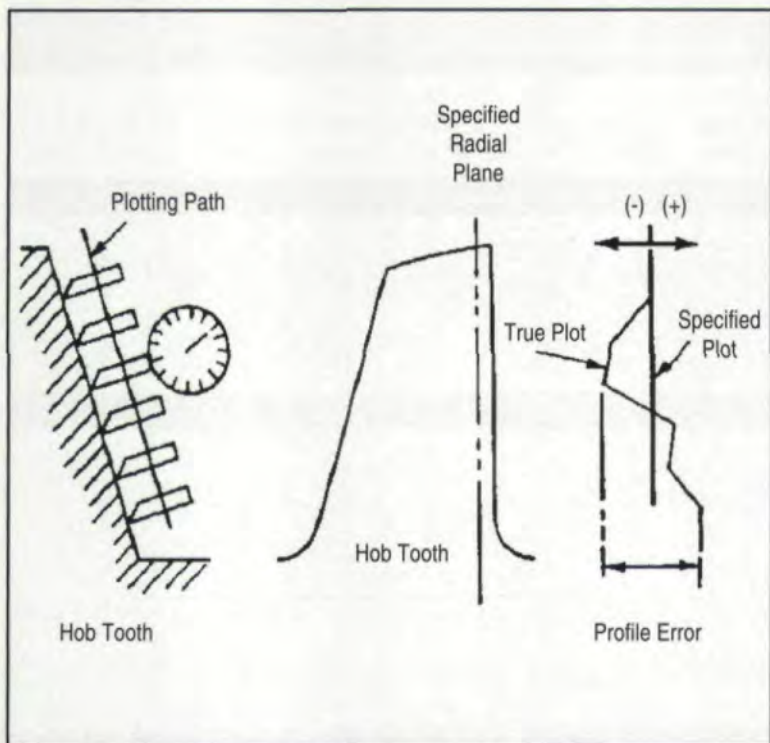

Fig. 10 — Method of measuring profile error of the hob.
**Hob Profile Error.** Pressure angle or profile error is the departure of the actual tooth profile from the correct tooth profile. The actual hob profile is allowed to vary from the specified hob profile entirely in the plus direction, entirely in the minus direction or split and divided in any ratio, provided the total deviation does not exceed the specified value. This maximum value can occur anywhere along the hob profile, and the variation of the profile on one side of the thread has no relationship to the variation on the other side of that same thread. The profile of either side can vary to the maximum positive or negative values independently. However, both must be within the specified tolerance. Fig. 10 is an illustration of the manner in which the hob profile error is measured by plotting. Hob tooth profile error is reproduced directly in the gear tooth profile.